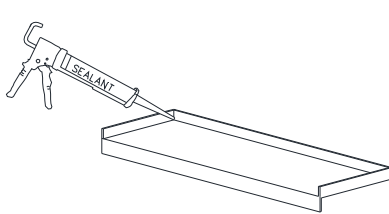

Figure 2:
- Apply sealant in all corners and seams of the sill-pan (Figure 2).